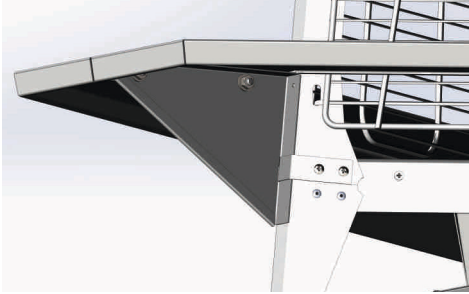

Fig. 20
7. Holding the first stand, install the second stand as shown in Fig. 20, bolt the holes. Put nuts on the bolts, but do not tighten them until the end of the assembly;